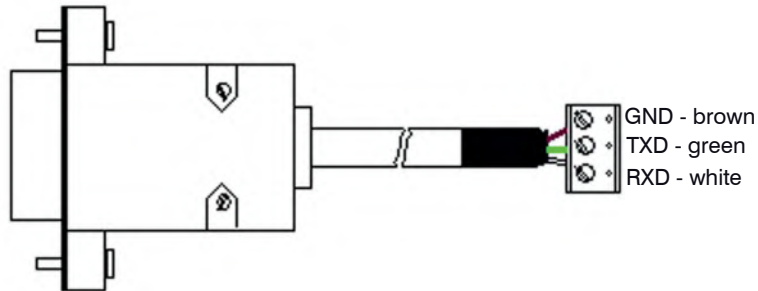

Fig. 13 Pin assignment RS232
- **i** Make sure the wiring is correct according to the drawing and designation printed on the interface board, see Fig. 13.